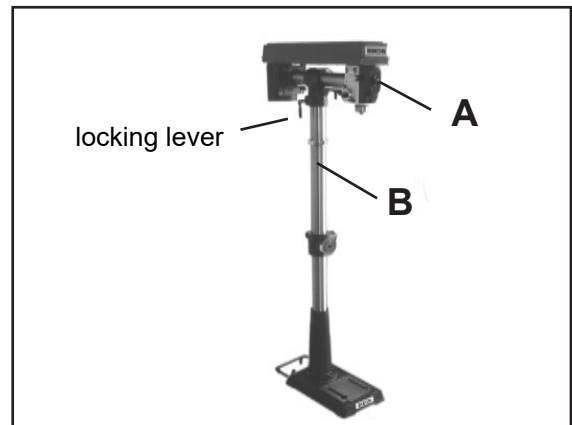
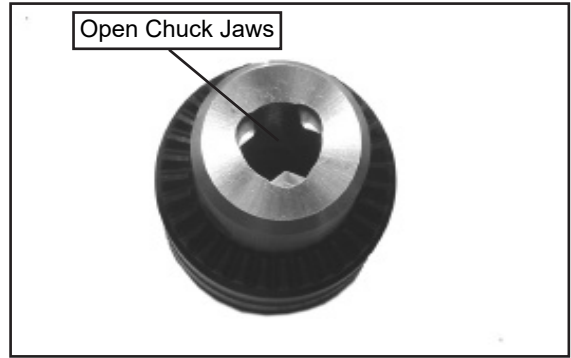

Figure 6
Figure 8
4. Align the drill press head (A-Fig. 6) with the base of the drill press.
5. Tighten the drill press head (A-Fig. 6) to the column (B-Fig. 8) by tightening the locking lever (part# 30B) on the left side of the guide column (part# 18B).
1. Open the chuck jaws as wide as possible to prevent any damage. (Fig.8)